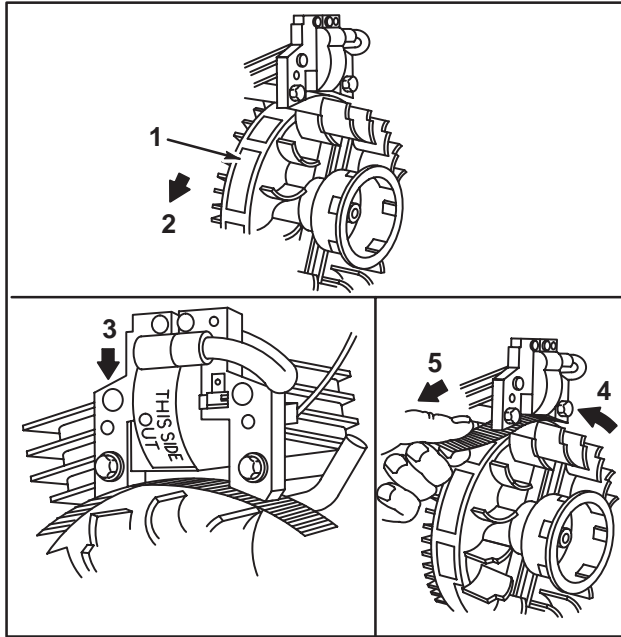

Fig. 18 – Adjusting Armature Air Gap
2. Place thickness gauge, Table No. 1, Page 17, between magnet and armature laminations, Fig. 18.